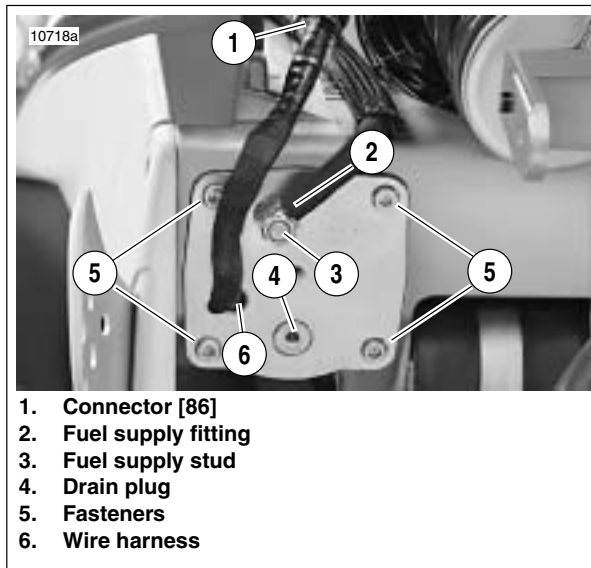

Figure 4-91. Fuel Pump Wire Harness Location
3. See Figure 4-91. Remove terminals from fuel pump connector [86].